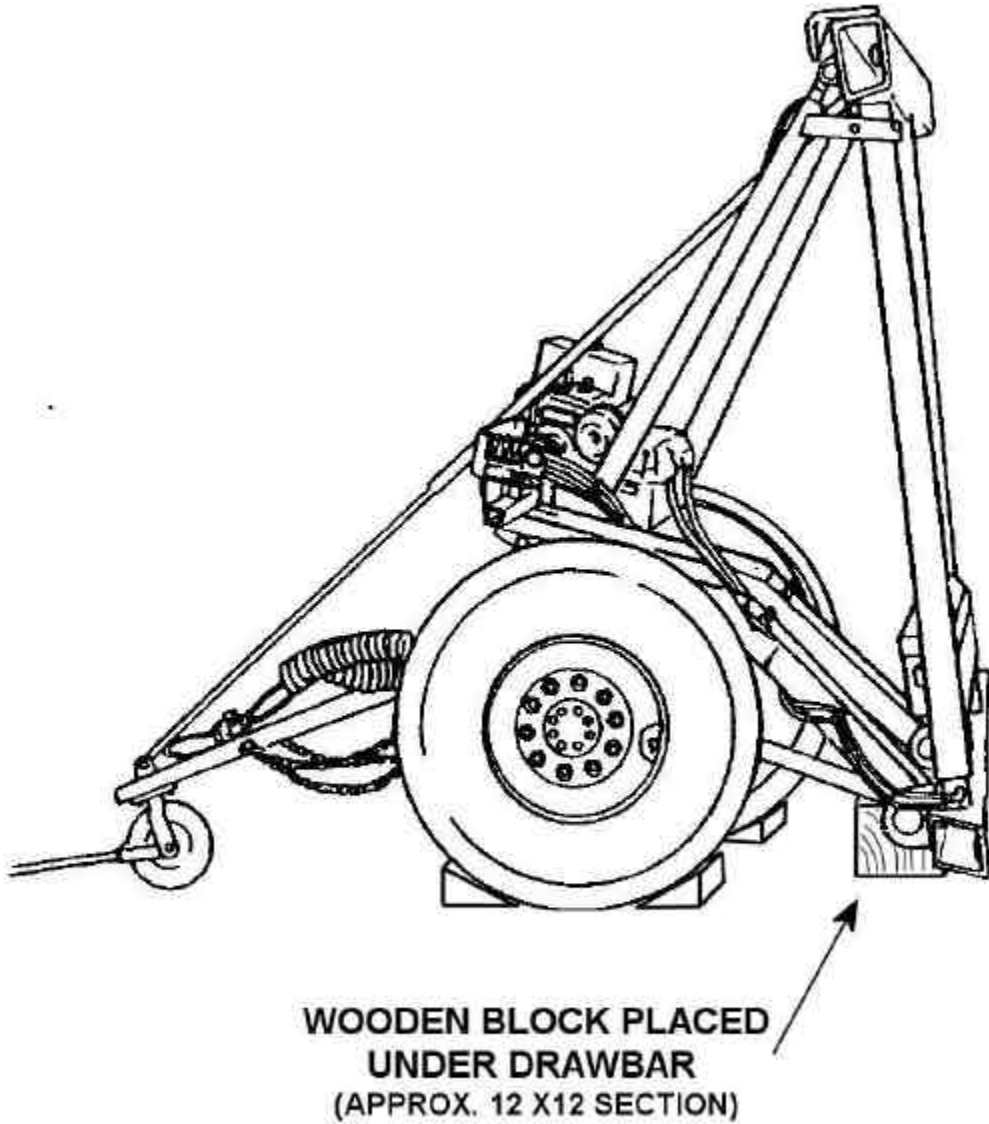

Figure 4
4. Place wooden blocks (12"x12" stock) under each end of each bottom beam and remove dolly half from maneuvering position (Refer to Appendix B, Section b). Once the set is resting on blocks, place wheel chocks under each wheel. The condition of each dolly half should resemble Figure 4.